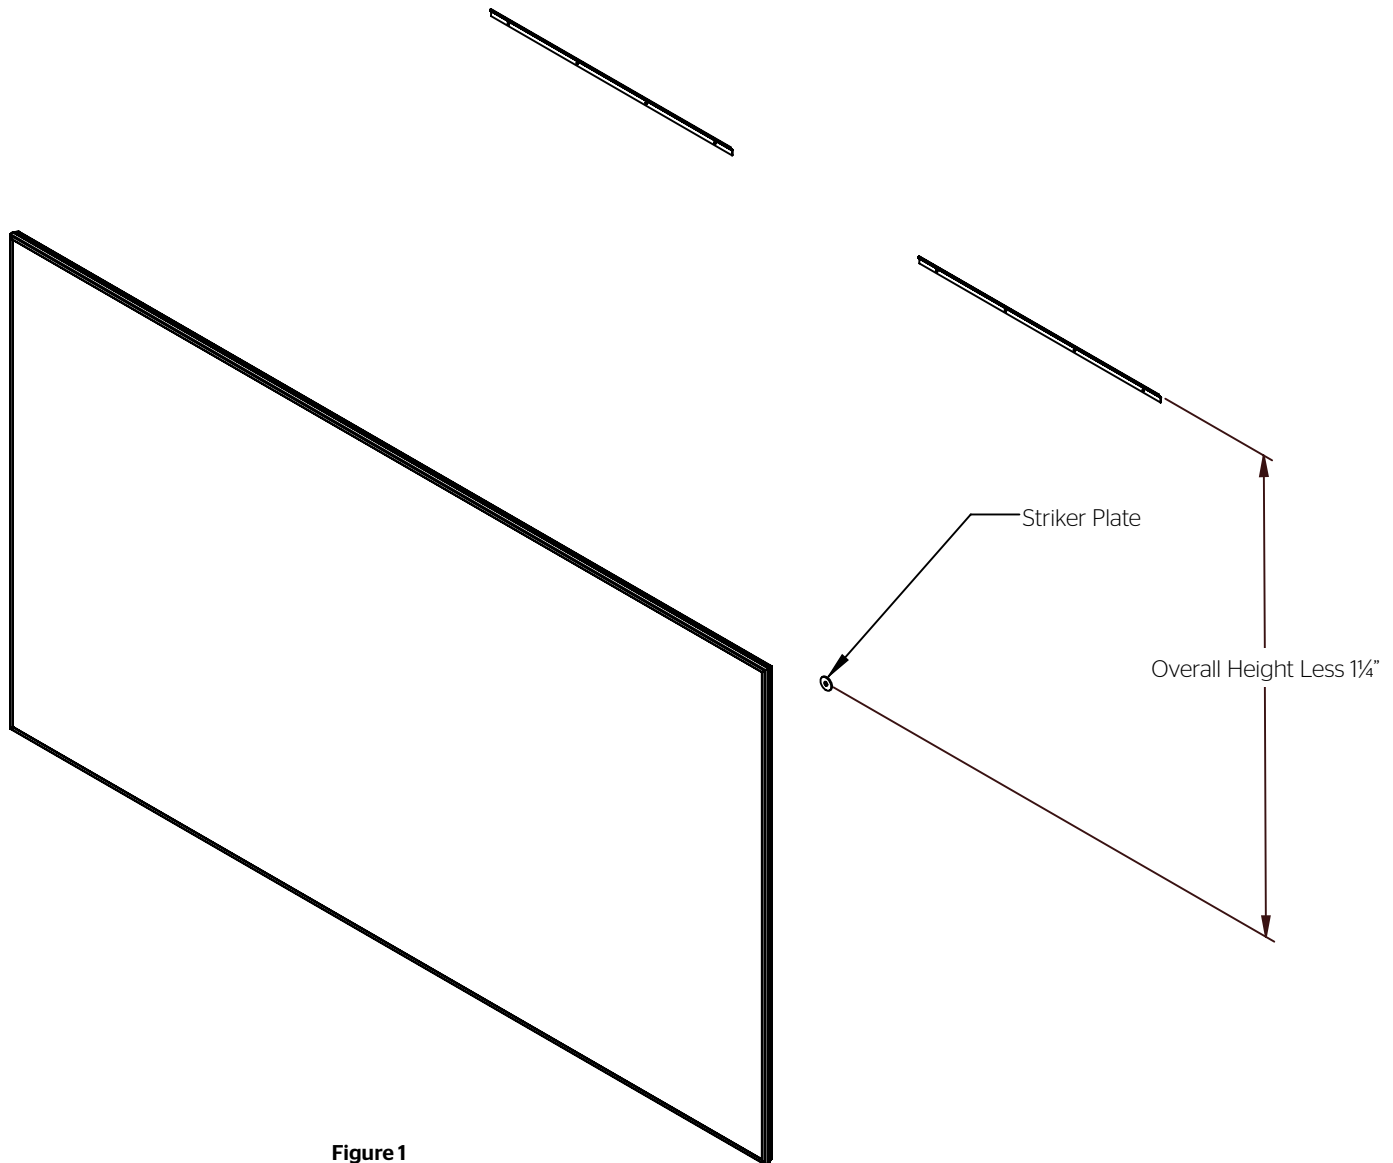

Figure 1
**NOTE:** The screen is shipped with two wall brackets. Screens in widths of 88 $\frac{3}{4}$ " and below receive (2) 28" wall brackets. Screens above 88 $\frac{3}{4}$ " in width receive (2) 44" wall brackets. Use appropriate mounting hardware for the wall type and to accommodate for the screen's hanging weight (Figure 1).
1. Secure the two wall brackets to wall studs at the desired height. The outside edge of each wall bracket must be no greater than 5" away from the left and right edges of the frame. You will need at least 2" clearance above the drilled holes to hang the screen (Figure 1).
2. To install the striker plate, take your screens overall height (including frame) and subtract 1 $\frac{1}{4}$ ". Using that dimension, measure down from the top edge of the wall brackets and mark the wall for a screw hole (Figure 1).